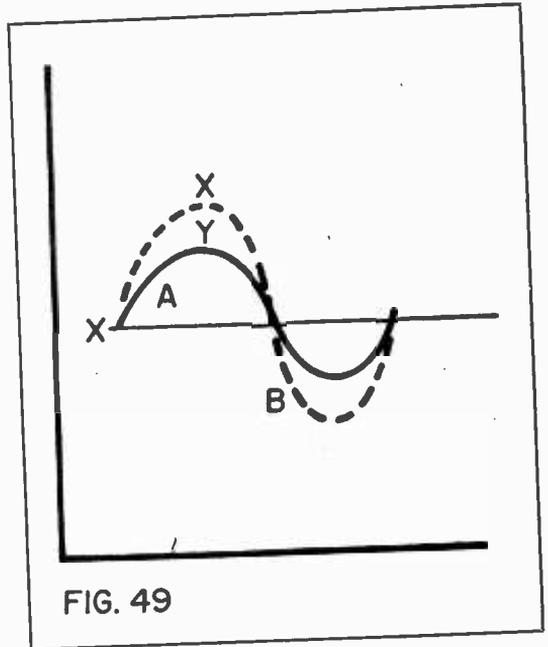

FIG. 49
Phase: Fig. 49 is a graph of two sine waves. Sine wave A representing the voltage across a resistor and curve, B representing the current flowing through the same resistor. Notice that both the voltage and current start at the same point at the left-hand edge of the graph, (X) and rise to their maximum value at the same time. (Y) Thus, we see that the current flowing through the resistor is always in step, or phase, with the voltage across the resistor . . . both obtaining minimum and maximum values at the same time.